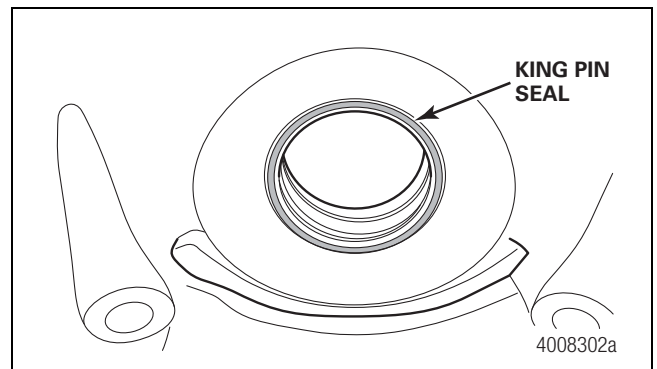

Figure 3.4
9. Remove and discard the king pin seals. Figure 3.4.